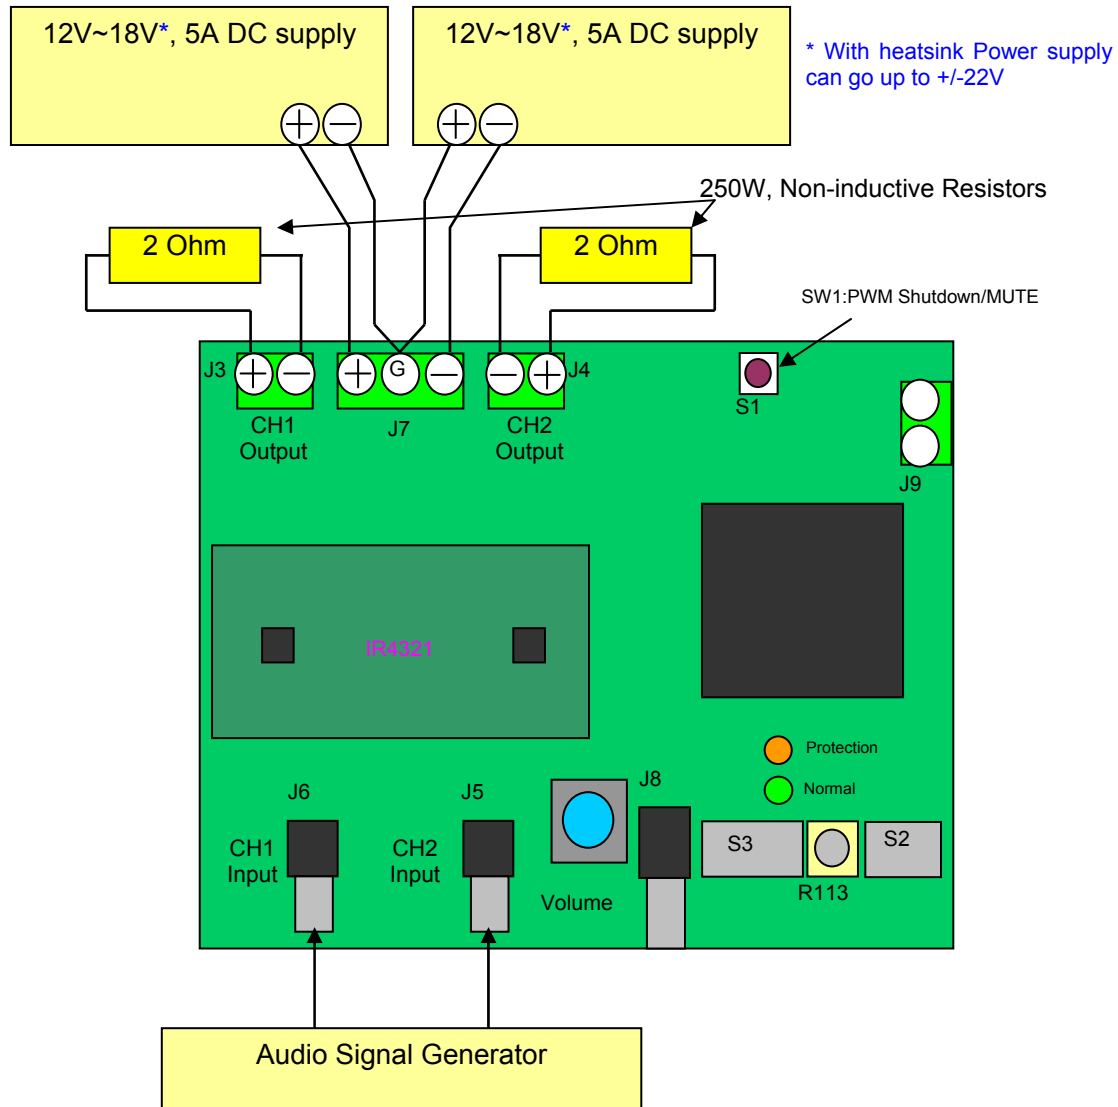

Figure 1 Typical Test Setup
1. Connect 2 Ω -250 W dummy loads to output connectors (J3 and J4 as shown on Figure 1) and parallel it with input of Audio Precision analyzer (AP).
6. Connect the dual power supply to J7. as shown on Figure 1